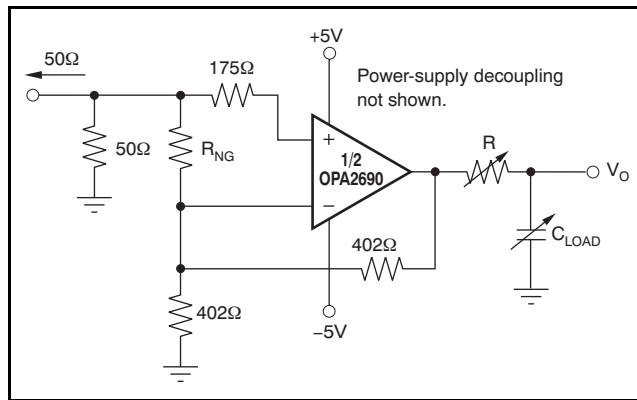
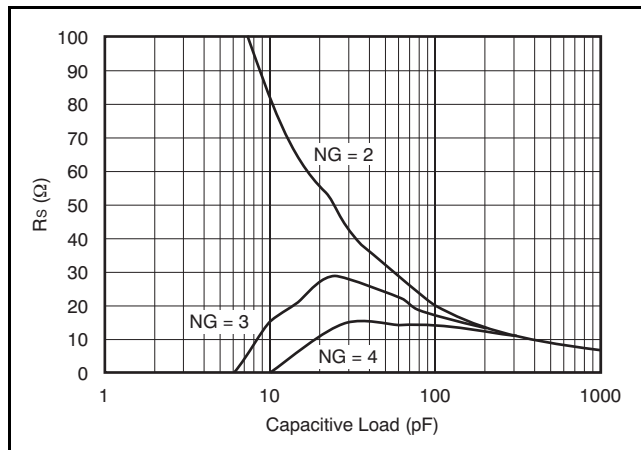

Figure 48. Capacitive Load Driving with Noise Gain Tuning
Figure 49. Required R_S vs Noise Gain
The criterion for setting this R_S resistor is a maximum bandwidth, flat frequency response at the load. For the OPA2690 operating in a gain of +2, the frequency response at the output pin is already slightly peaked without the capacitive load requiring relatively high values of R_S to flatten the response at the load. Increasing the noise gain will reduce the peaking as described previously. The circuit of Figure 48 demonstrates this technique, allowing lower values of R_S to be used for a given capacitive load.
This gain of +2 circuit includes a noise gain tuning resistor across the two inputs to increase the noise gain, increasing the unloaded phase margin for the op amp. Although this technique will reduce the required R_S resistor for a given capacitive load, it does increase the noise at the output. It also will decrease the loop gain, slightly decreasing the distortion performance. If, however, the dominant distortion mechanism arises from a high R_S value, significant dynamic range improvement can be achieved using this technique. Figure 49 shows the required R_S versus C_{LOAD} parametric on noise gain using this technique. This is the circuit of Figure 48 with R_{NG} adjusted to increase the noise gain (increasing the phase margin) then sweeping C_{LOAD} and finding the required R_S to get a flat frequency response. This plot also gives the required R_S versus C_{LOAD} for the OPA2690 operated at higher signal gains without R_{NG} .
- d. **Connections to other wideband devices** on the board may be made with short, direct traces or through onboard transmission lines. For short connections, consider the trace and the input to the next device as a lumped capacitive load. Relatively wide traces (50mils or 1.27mm to 100mils or 2.54mm) should be used, preferably with ground and power planes opened up around them. Estimate the total capacitive load and set R_S from the plot of Recommended R_S vs Capacitive Load (Figure 15 for $\pm 5\text{V}$ and Figure 30 for $+5\text{V}$). Low parasitic capacitive loads ($< 3\text{pF}$) may not need an R_S because the OPA2690 is nominally compensated to operate with a 2pF parasitic load. Higher parasitic capacitive loads without an R_S are allowed as the signal gain increases (increasing the unloaded phase margin; see Figure 49). If a long trace is required, and the 6dB signal loss intrinsic to a doubly-terminated transmission line is acceptable, implement a matched impedance transmission line using microstrip or stripline techniques (consult an ECL design handbook for microstrip and stripline layout techniques). A 50Ω environment is normally not necessary on board, and in fact, a higher impedance environment will improve distortion as shown in the distortion versus load plots (Figure 7 for the $\pm 5\text{V}$ and Figure 32 for the $+5\text{V}$). With a characteristic board trace impedance defined (based on board material and trace dimensions), a matching series resistor into the trace from the output of the OPA2690 is used as well as a terminating shunt resistor at the input of the destination device. Remember also that the terminating impedance will be the parallel combination of the shunt resistor and the input impedance of the destination device; this total effective impedance should be set to match the trace impedance. The high output voltage and current capability of the OPA2690 allows multiple destination devices to be handled as separate transmission lines, each with their own series and shunt terminations. If